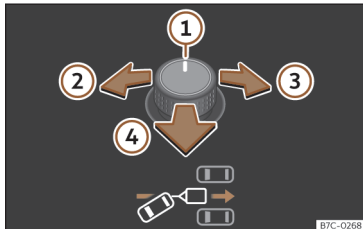
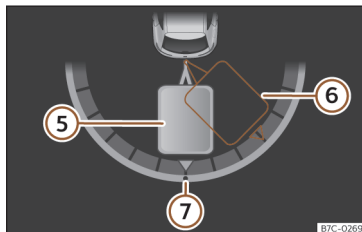

Fig. 184 Rotary exterior mirror controls.: adjust the trailer angle.
Fig. 185 Instrument panel display: engage reverse gear
Key of the Fig. 184, »» Fig. 185 :
• Tilt the rotary control until the desired direction is reached »» Fig. 184. A representation of the tow vehicle and trailer set is shown on the instrument cluster screen for guidance purposes »» Fig. 185.